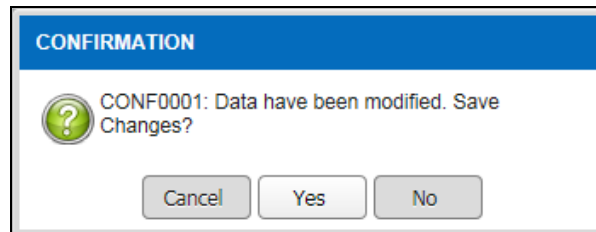

Figure 3.3.1-8 Confirmation Message
- Click on the  button and information message will be displayed as Figure 3.3.1-9